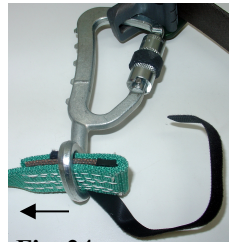

Fig. 24
- After removing the inner strap from the WebGrab, slide it through the eyelet of the serrated rotosnap. See figures 24 and 25.